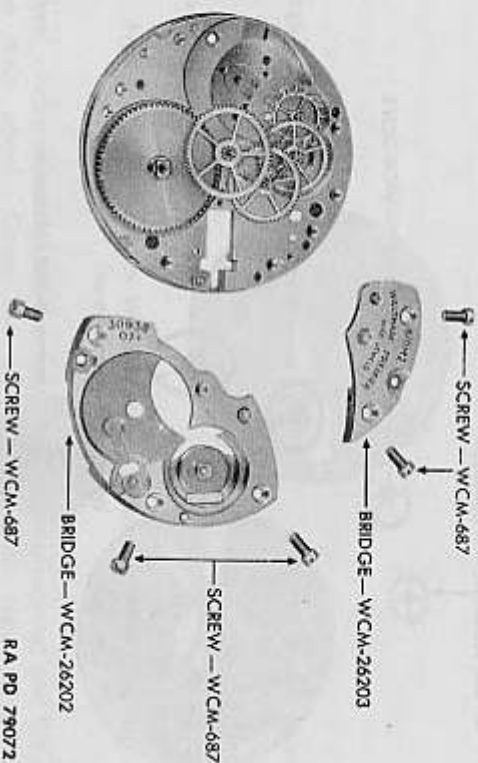

Figure 162 — Waltham Wrist Watch — Train and Barrel Bridge Assemblies Removed
m. Remove Bridges (fig. 162). Remove barrel and train bridge assembly screws and bridge assemblies. If the bridges are tight, insert a screwdriver in slots provided in pillar plate and pry loose carefully.
d. Replace Bridges (fig. 162). Replace the barrel bridge assembly, aligning the pivots of the center and third wheel in their respective pivot holes. Secure in place with bridge screws. Replace train bridge assembly, aligning the pivots of the fourth and escape wheels in their respective holes. Secure in place with bridge screws.